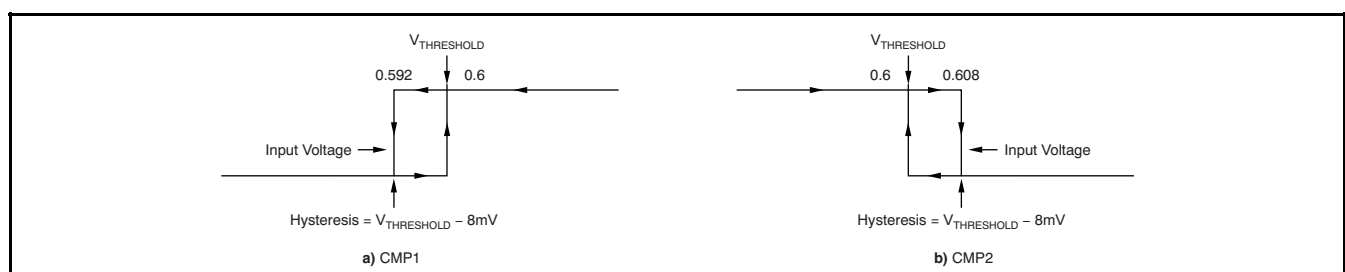

Figure 1. Comparator Hysteresis
- (1) Hysteresis refers to the threshold (the threshold specification applies to a rising edge of a noninverting input) of a falling edge on the noninverting input of the comparator; refer to Figure 1.
- (2) Specified by design; not production tested.
- (3) See the Comparator Maximum Input Voltage Range section in the Applications Information.
- (4) The comparator response time specified is the interval between the input step function and the instant when the output crosses 1.4V.
- (5) The CMP1 $\overline{\text{RESET}}$ input has an internal 2M Ω (typical) pull-down. Leaving the CMP1 $\overline{\text{RESET}}$ open results in a LOW state, with transparent comparator operation.
- (6) The Comparator 2 delay applies to both rising and falling edges of the comparator output.